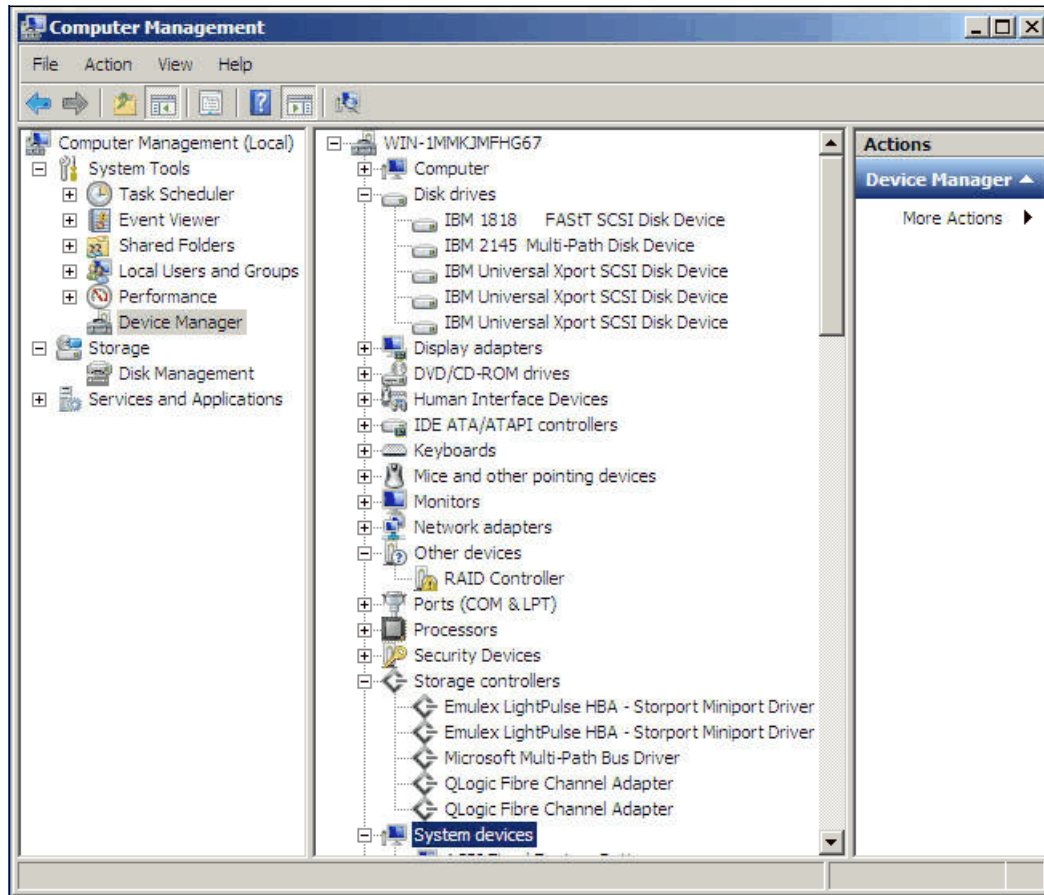

Figure 5-83 SDDDSM in Windows
- Double-click **Device Manager**, then expand **Disk drives** in the right pane. You will see the Multipath Disk Device installed there, as shown in Figure 5-83.